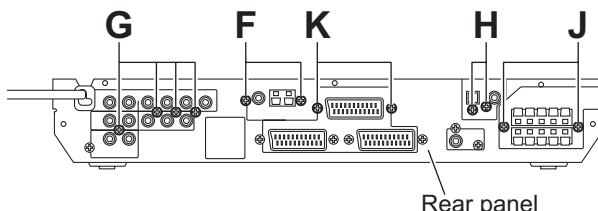

Fig.8
(2) From the back side of the main body, remove the two screws **F** attaching the tuner to the rear panel. (See Fig.8)
(1) From the back side of the main body, remove the four screws **G** attaching the PAL prg board to the rear panel. (See Fig.8)
(1) From the back side of the main body, remove the two screws **H** attaching the DSP board to the rear panel. (See Fig.8)
(See Figs. 8 and 9)
- (1) From the back side of the main body, remove the two screws **J** attaching the SPK term. board to the rear panel. (See Fig.8)
(See Figs. 8 and 10)
- (1) From the back side of the main body, remove the two screws **K** attaching the SCART board to the rear panel. (See Fig.8)